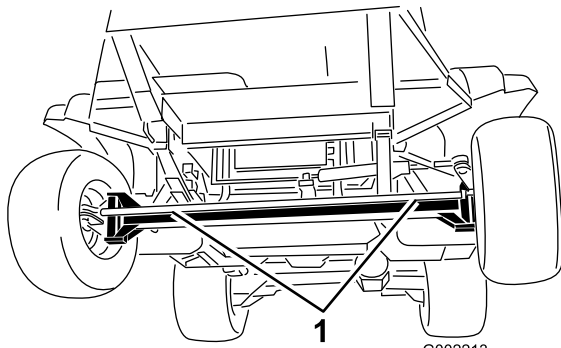
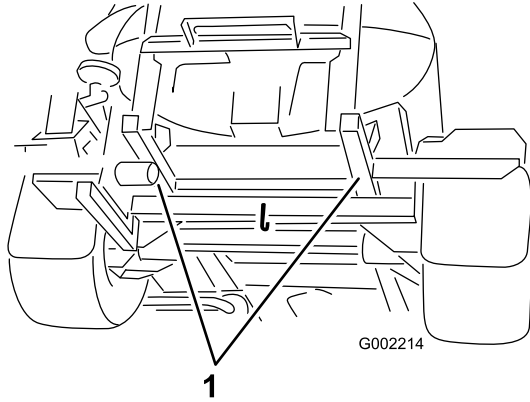

Figure 29
Figure 30
2. Affix a tow line to the frame. Refer to the front and rear towing points in Figure 29 and Figure 30.